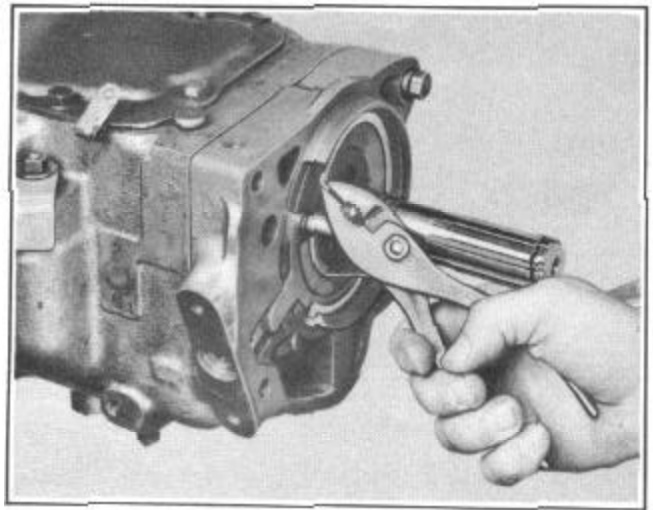

FIGURE 18
8. Remove the large snap ring at the adapter plate, Figure 18.